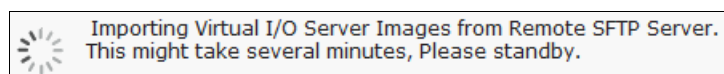

Figure 3-5 Importing process
- Figure 3-5 shows the loading panel. Wait until the files are uploaded to the HMC and then continue with the installation.